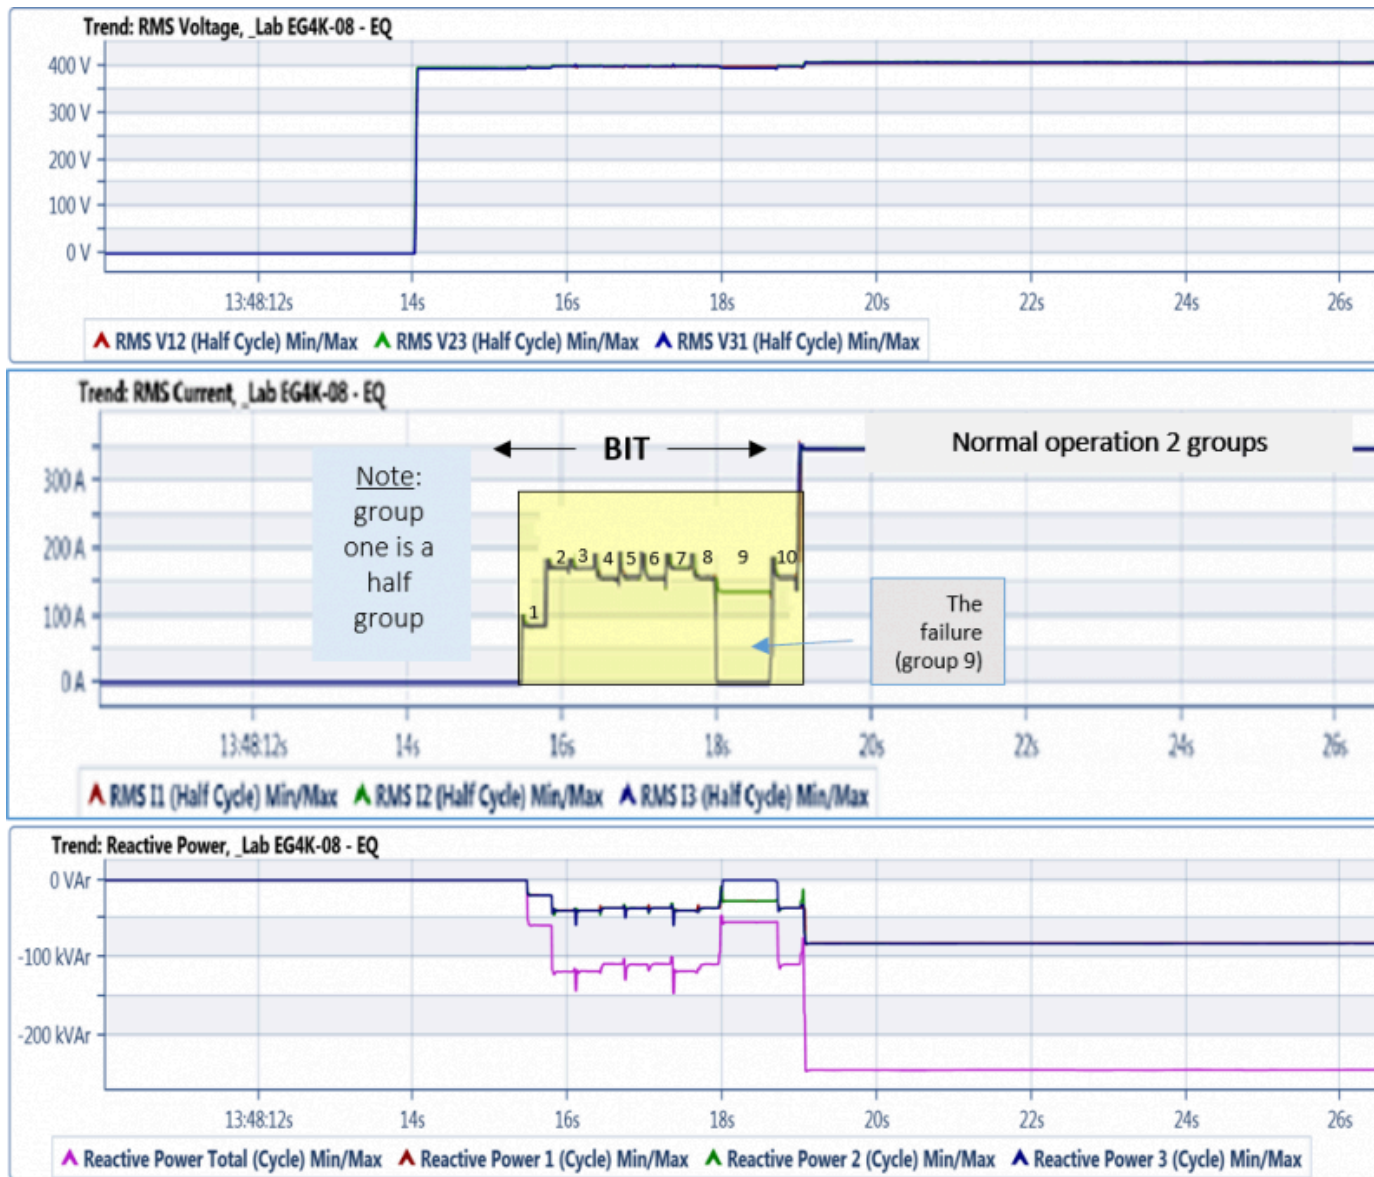

Figure 2: Zoom in on the BIT (Built in test)
Figure 2 shows the BIT (Built in test) in further details. Ten (10) groups were tested, with the first group tested at 60 KVAR and groups 2 through 10 tested at 120 KVAR each. All groups were functioning well excluding group 9, where 1 phase was disconnected and the KVAR was reduced substantially. Upon completion of the test, the equalizer system resumed normal operation where two functional groups were connected and group 9 was disabled (until it could be repaired).